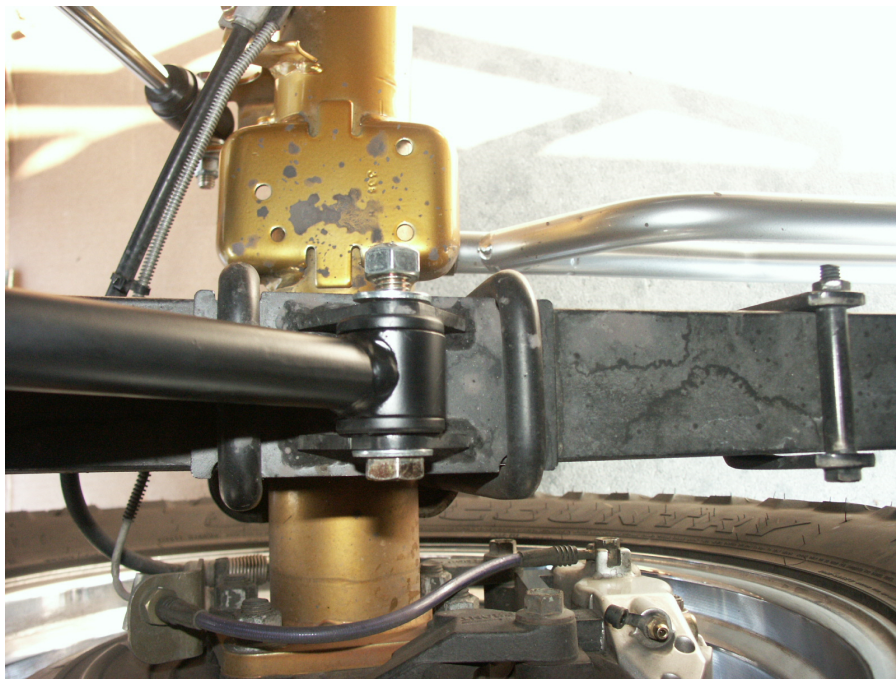

Figure 8: sway bar end link mounted to leaf spring top plate
11. Attach the sway bar end link to sway bar and to the leaf spring top plate as shown in Figure 8 and 9 with the ½” bolts, washers, and coarse thread locking nuts provided. Torque to 70 ft/lbs.